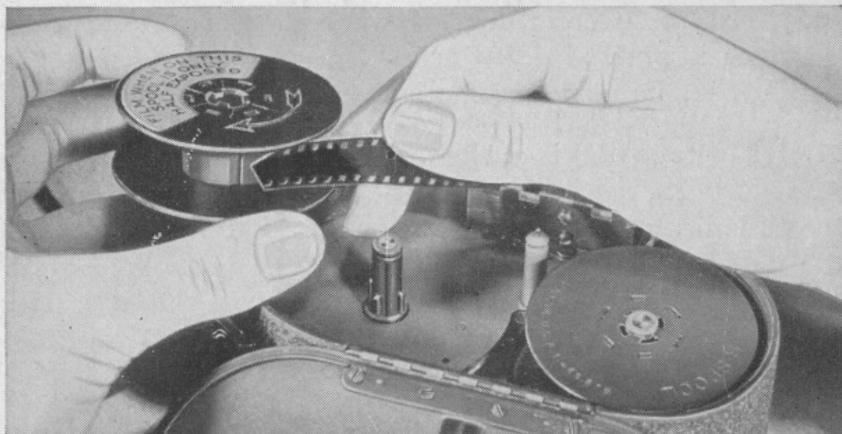

Figure 7
7. Holding the take-up spool near the take-up (lower) spindle, with its *4-notched hole* down, as in Figure 7, insert the film end into the take-up spool hub slot. Give the